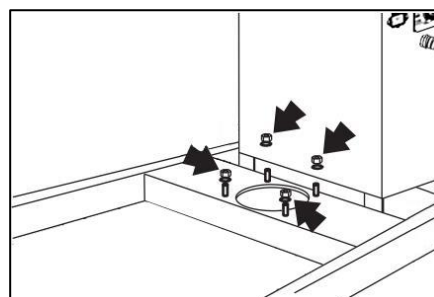

Figure 14
12. Using a 1-1/16 inch wrench, remove the four nuts from the base support plate (Figure 14).